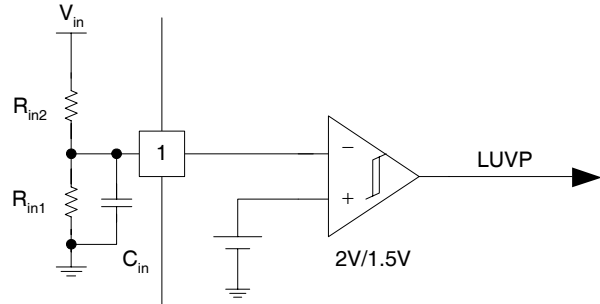
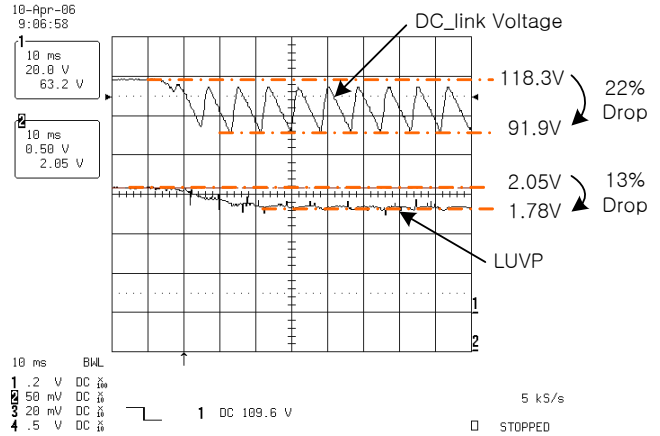

Figure 14. LUVP Circuit
Figure 15. LUVP Start-up Waveform
If the input voltage of the converter is lower than the minimum operating voltage, the converter input current increases too much, causing component failure. Therefore if the input voltage is low, the converter should be protected. In the FAN7602, the LUVP circuit senses the input voltage using the LUVP pin and if this voltage is lower than 2V, LUVP signal is generated. The comparator has 0.5V hysteresis. As shown in Fig. 14, the LUVP pin needs a filter capacitor to filter the input voltage ripple. If this filter is not enough, the LUVP function works unintentionally at lowest input voltage. The filter time constant is  $R_{in1} * C_{in}$  because  $R_{in2}$  is much higher than  $R_{in1}$  and a proper value for the time constant is about 10ms. Because  $R_{in2}$  value must be high to reduce the power loss, a 10MΩ resistor is used in the demo board.  $R_{in1}$  and  $C_{in}$  values can be calculated by (3). If the minimum AC line voltage is 85Vac, the calculated  $R_{in1}$  is 167kΩ and the used value is 180kΩ. Figure 15 shows a typical start-up waveform of the LUVP pin when the line voltage is 85Vac and the output load is 4A. Before the IC starts switching, the DC\_link voltage is the peak value of the AC line voltage, 118.3V. If the IC starts switching, the DC\_link voltage has a ripple and the minimum voltage of the DC\_link voltage drops by 22% of the peak value. The LUVP pin voltage drops by 13% of the peak value, from 2.05V to 1.78V, due to the averaging effect of the filter. The LUVP protection works when the AC line voltage is 72Vac at full load. If a RC filter with 5ms time constant is used, the LUVP protection level is increased to 73Vac because the ripple of the LUVP pin voltage increases.